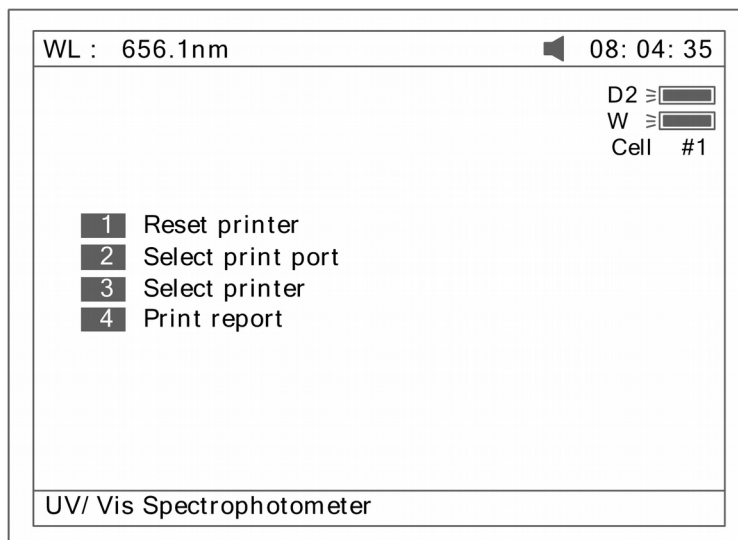
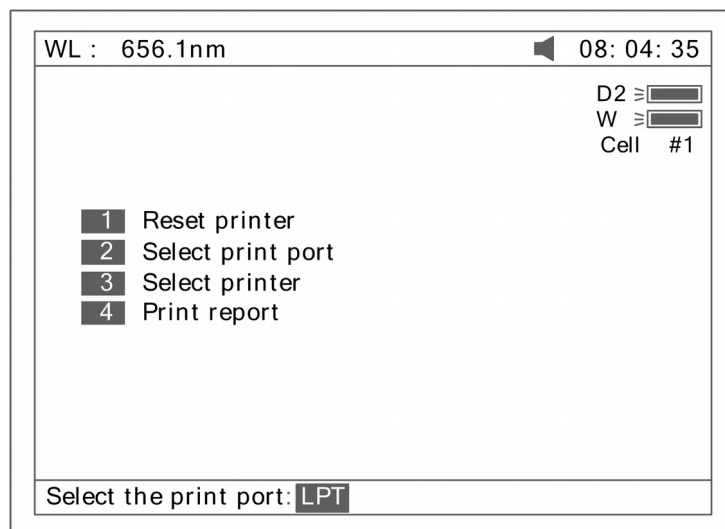
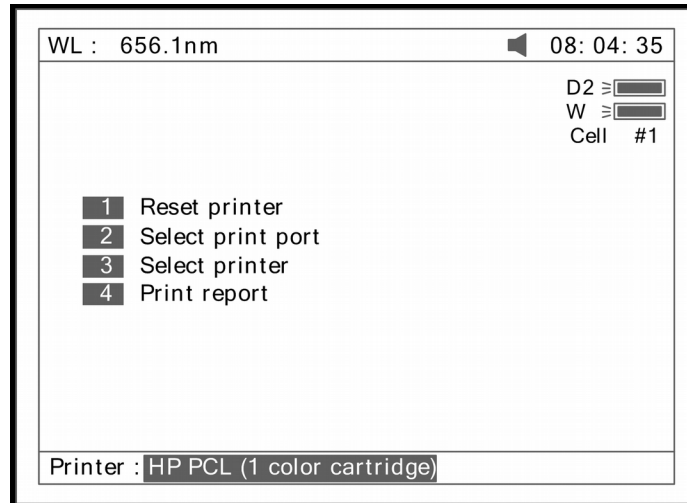
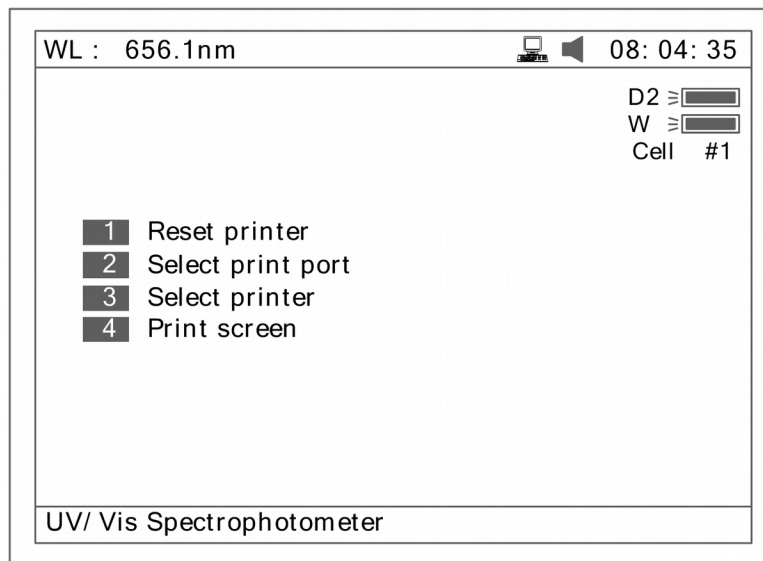

Fig 75
Fig 76
Fig 77
Fig 78
Press **(2)** to set printer (Fig 75). **(ESC/STOP)** to exit.
1. Press **(1)** in Fig 75 to Reset Printer.
2. Press **(2)** in Fig 75 to select print port (LPT or Comm., Fig 76).
3. Press **(3)** in Fig 75 to select printer (HP PCL (1 colour cartridge), PCL (black mode), Epson ESC/P or Epson/P2 or above, Fig77).
4. Press **(4)** in Fig 75 to select print mode. If you select "Print screen" mode, a little icon will be displayed on the top line of the screen (Fig 78), if you select "Print report" mode, the little icon will disappear.